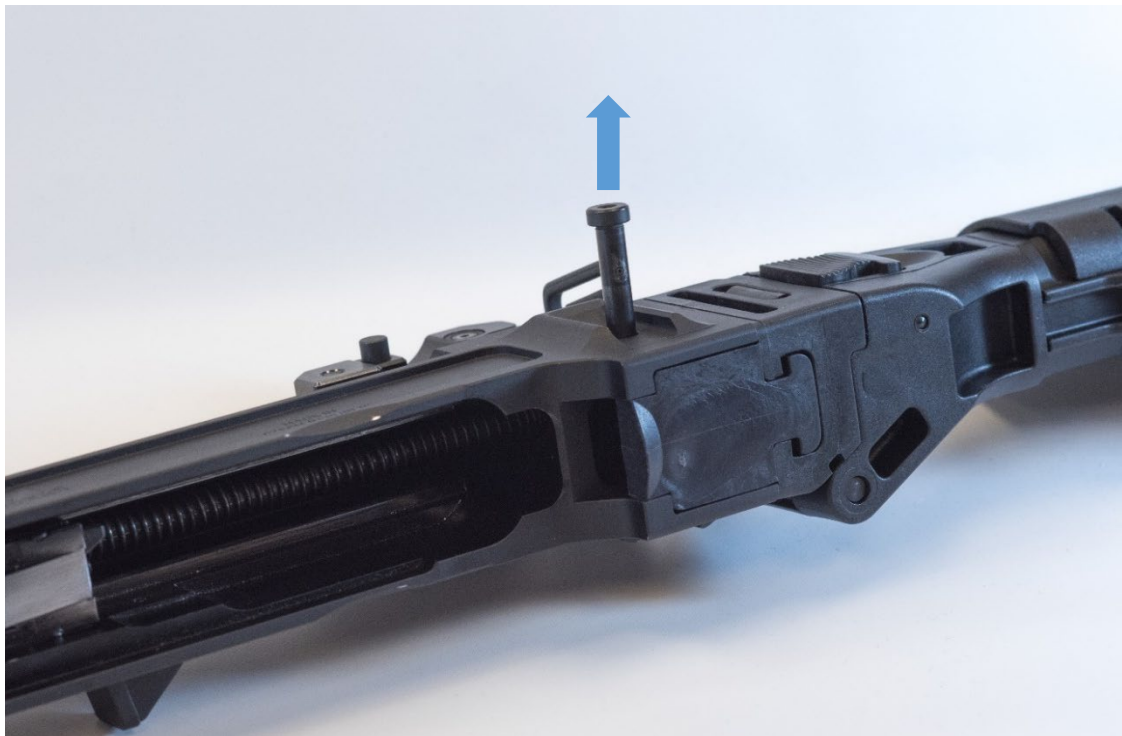

Figure 4: Rear Disassembly Pin Removal
- Press the rear disassembly pin from the side and remove it (Figure 4).